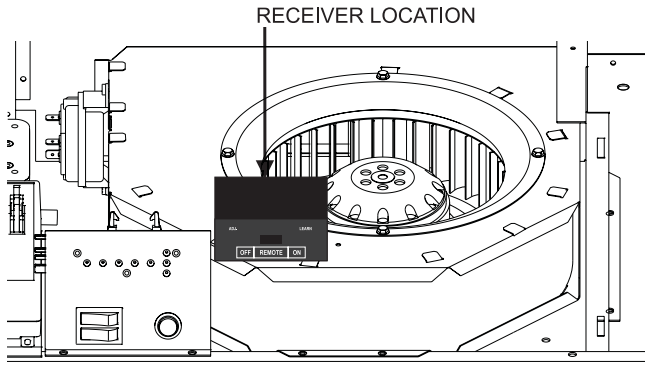

Figure 70
- A. With main electrical power to the fireplace turned off, install 4 AA sized 1.5V batteries into the remote receiver. The remote receiver is located inside the fireplace, mounted to the top of the blower housing and secured with hook and loop tape. See Figure 70. Set up receiver and remote per instructions on pages 41 - 46.